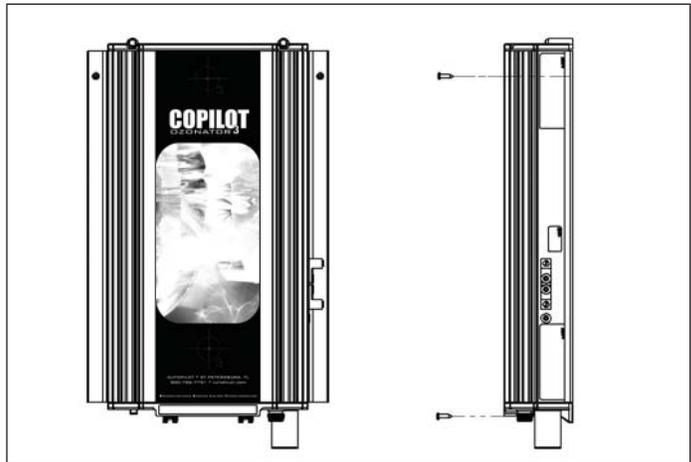

Figure 1 Wall Mount
- A pressure wire connector is provided on the outside of the unit to permit connection to a minimum No. 8 AWG (8.4 mm2) solid bonding conductor between this point and any metal equipment, metal enclosures of electrical equipment, metal water pipes, or conduit within five (5) feet (1.5m) of the unit as needed to comply with local requirements.
- Install at least 5 feet (1.5 meters) from wall of pool using nonmetallic tubing. Install ozone generator no less than one (1) foot above maximum water level to prevent water from contacting electrical equipment. Install in accordance with the installation instructions.
- The CoPilot must be installed in an outdoor location, or indoors in a forced air ventilated room, and installed so that the orientation is exactly as shown in Figure 1. Install to provide water drainage of generator to protect electrical components.
The CoPilot units are designed for wall mounting. **See Figure 1.** Mount generator in a clean, protected area, either indoors or outdoors (preferably out of direct sunlight). Locate generator out of reach of sprinklers or drainage spouts. Allow sufficient access for maintenance and all tubing and electrical wires. The ozone generator should be installed at least (not less than) one foot above the maximum water level.
1. Refer to Figure 1 to mark the locations for the four mounting screws.